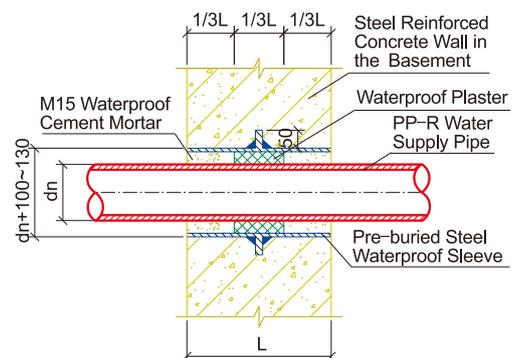

Fig.10 Pipe Crosses Steel Reinforced Concrete and Brick Wall Unit: mm
3.3 Pre-bury the PVC-U sleeve when the pipe crosses brick wall or steel reinforced concrete wall. The construction details have been showed in figure 10.